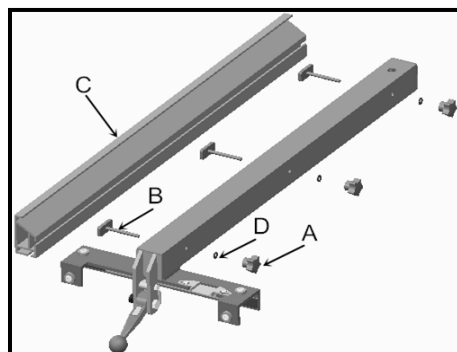

Figure 27: High/Low Fence
1. Loosen the three knobs (A) on the fence, then remove the fence aluminum plate (C) (See Figure 27)